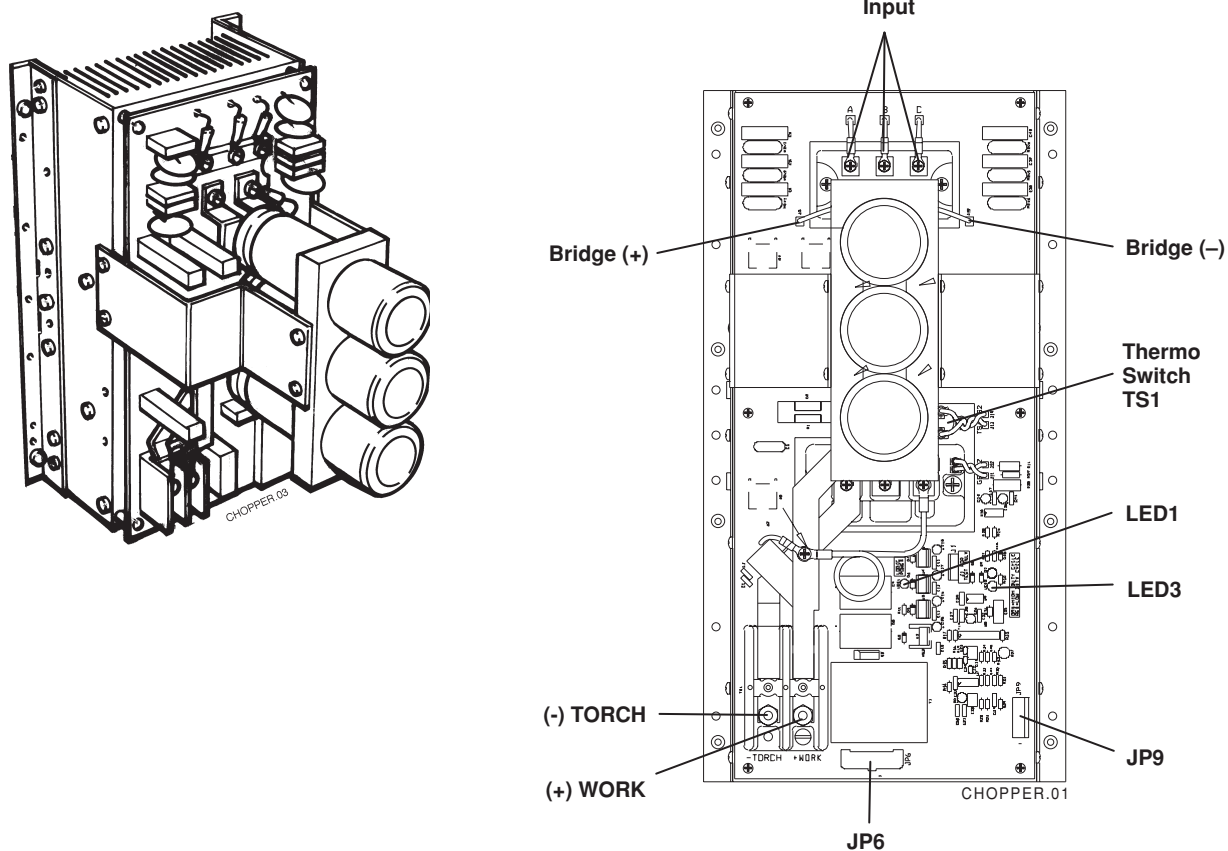

Figure 5-7 CH130 Chopper Module – Front View
3. Place the positive lead to the + side of the bridge and the negative lead to the – side of the bridge. See Figure 5-7. Note that actual connection points are hidden by the cap support bracket in Figure 5-7.
5. If voltage from step 4 is +280 VDC and corresponding fuse is not blown, check the chopper output at TB1 by placing the positive lead of the voltmeter at the (+) WORK terminal (#48A output cable) and the negative lead at the (-) TORCH terminal (#39A output cable). See Figure 5-7.